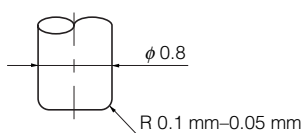

Fig.1
- Design the setting side of the operation section (form of actuator) as show in Fig.1. The toleration range of inclination of the actuator is 4 degrees. (See the Fig.2)